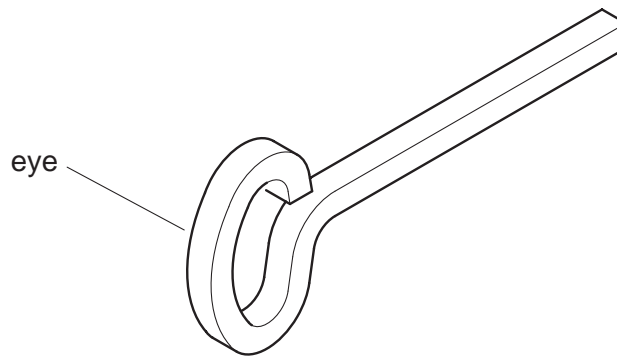

Fig. 4
- (i) the stages you would go through to form an eye on the end of a piece of wrought iron 6 mm square. The finished eye is shown in Fig. 4. [6]